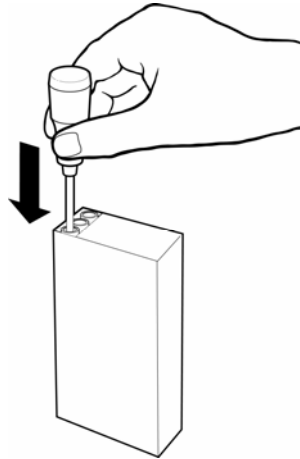

Figure 11: **Loading the Probe Cover**
- 3) Load a probe cover onto the probe by holding the probe collar with the thumb and forefinger, being careful not to hold or press the ejection button. Refer to Figure 11.